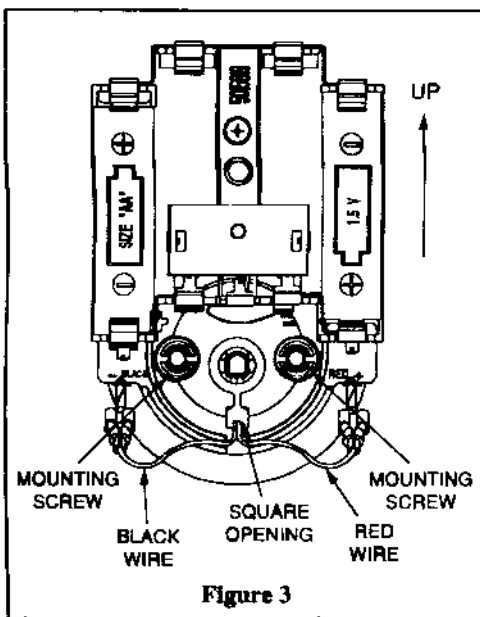

Figure 3
6. Secure the battery module, (refer to Figure 3) on interior side of door to the exterior cylinder on other side of door. Hold flat area facing up and fasten with two 1/4-28 black mounting screws. Prior to tightening the mounting screws, make sure that the flat top module surface is level and that the wires are routed through the small square opening at the bottom of the battery module.
7. Connect spade terminals to terminals on battery module. Connect black wire to terminal marked BLACK (-), connect red wire to terminal marked RED (+). See Figure 3.
8. Install (2) AA size batteries. Position batteries as indicated by markings on battery module. See Figure 3. Alkaline batteries are recommended for longer life. (Batteries are not included).